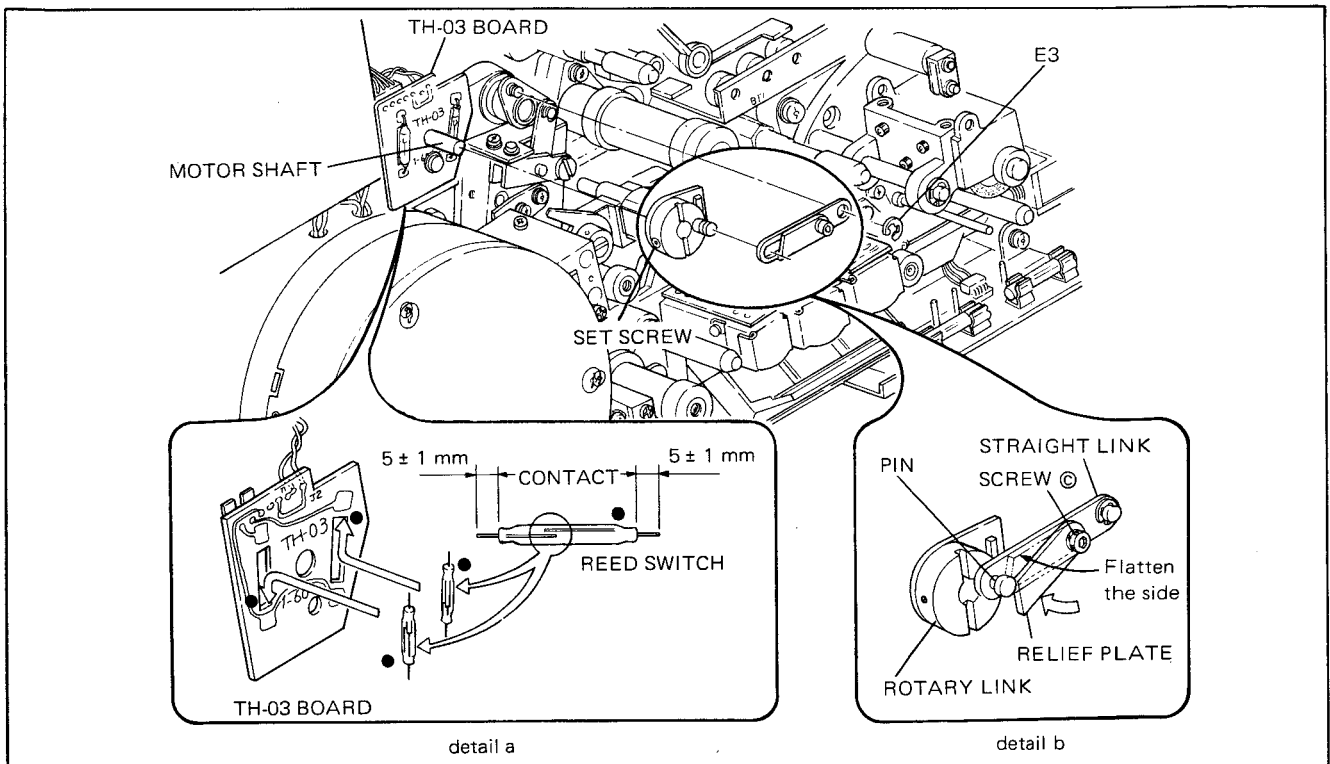

Fig. 3-61. Replacement of Reed Switch
5. Cut off the leads of a new reed switch in the specified length shown in Fig. 3-61 detail a.